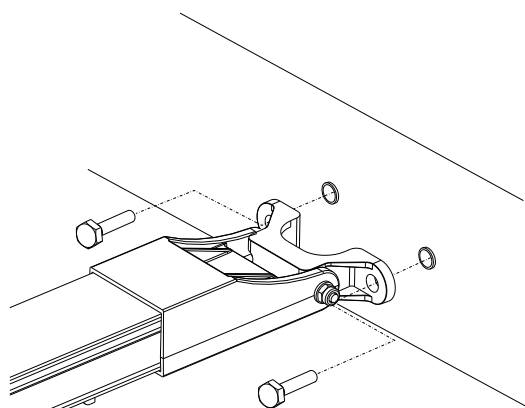

Fig. 8
- Put the anchor section together with the door frame or where necessary fix it on the wall through rivets or screws (Fig. 8);